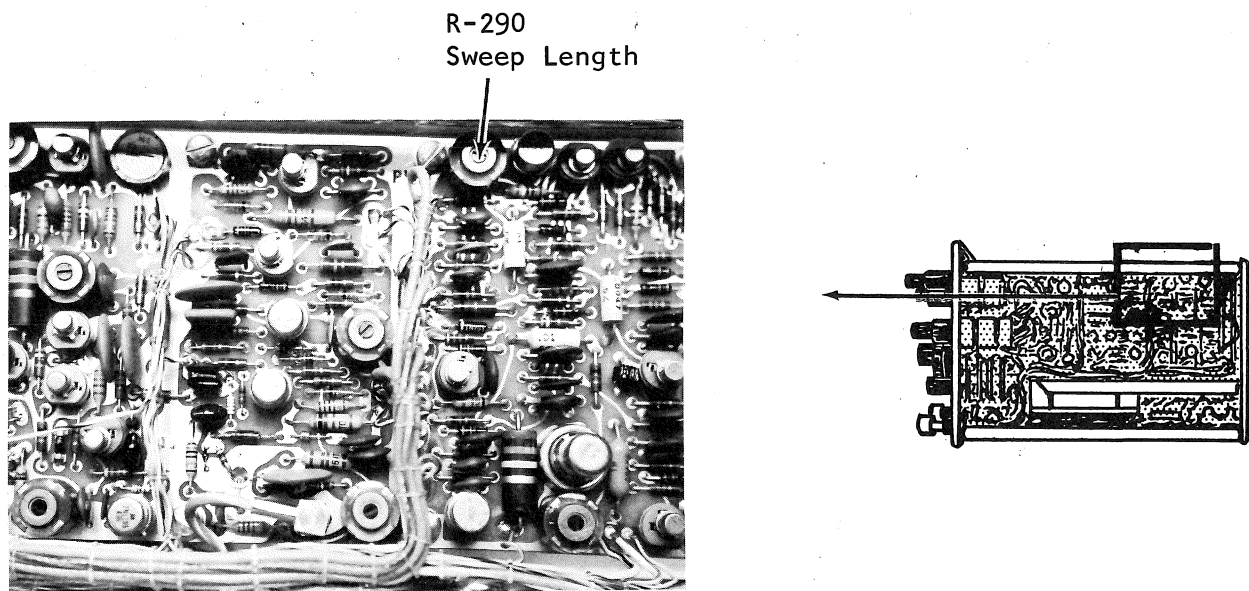

Figure 5-18
9. Adjust the SWEEP LENGTH R-290 (see figure 5-18) for exactly 10 cm of deflection.